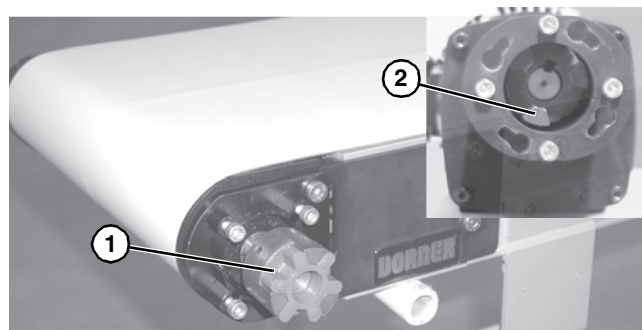

Figure 4
3. Rotate conveyor belt and attached conveyor coupling (**Figure 4, item 1**) to align with gearmotor coupling (**Figure 4, item 2**).